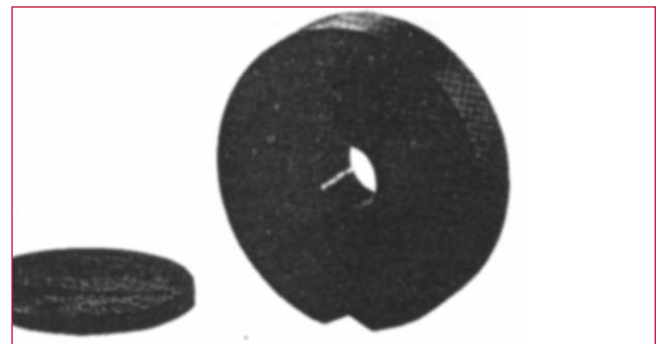

Figure 4, Flat & Parallel
1. The workpieces must have flat, parallel end surfaces (see Figure 4).